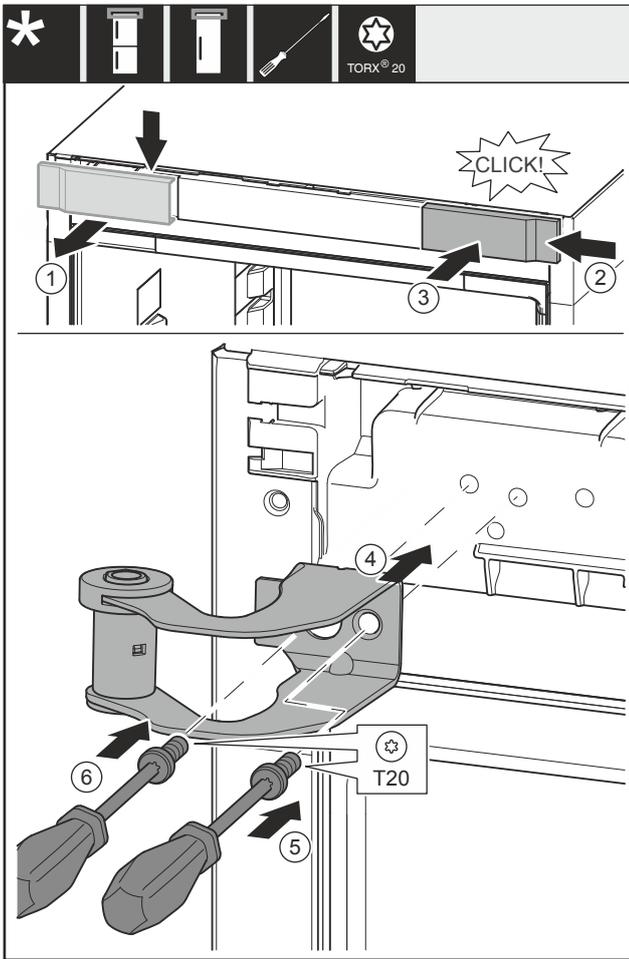

Fig. 33
- ▶ Remove the cover Fig. 33 (1) from above towards the front.
- ▶ Turn the cover Fig. 33 (2) by 180° and attach to the other side from the right.
- ▶ Engage the cover Fig. 33 (3).
- ▶ Place the top swap bearing block Fig. 33 (4).
- ▶ Screw the screw Fig. 33 (5) tight.
- ▶ Screw the screw Fig. 33 (6) tight.